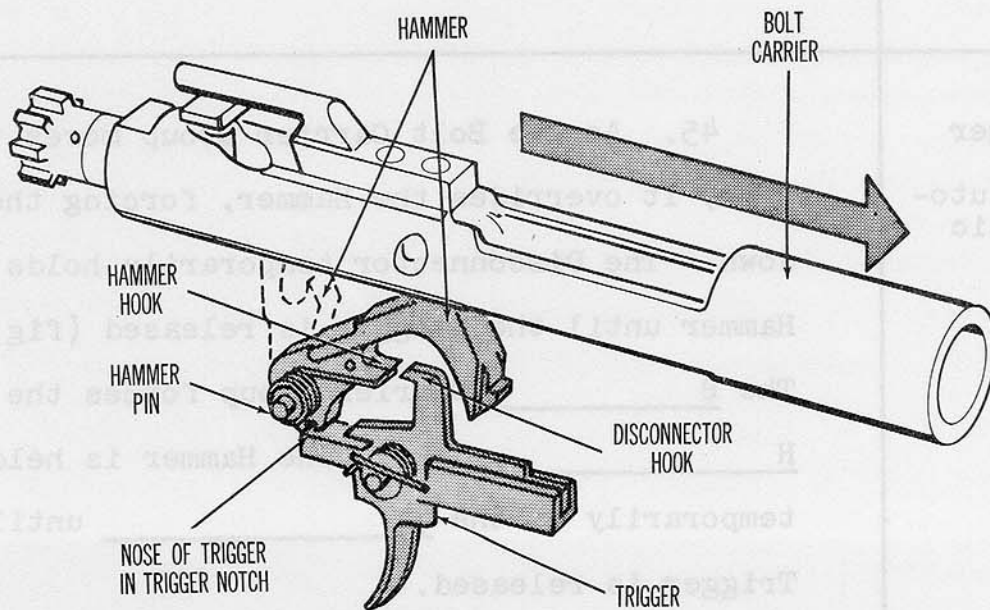

FIG. 8
45. As the Bolt Carrier Group moves to the rear, it overrides the Hammer, forcing the Hammer down. The Disconnecter temporarily holds the Hammer until the Trigger is released (fig. 8). The B \_\_\_\_\_ Carrier Group forces the H \_\_\_\_\_ down. The Hammer is held temporarily by the D \_\_\_\_\_ until the Trigger is released.